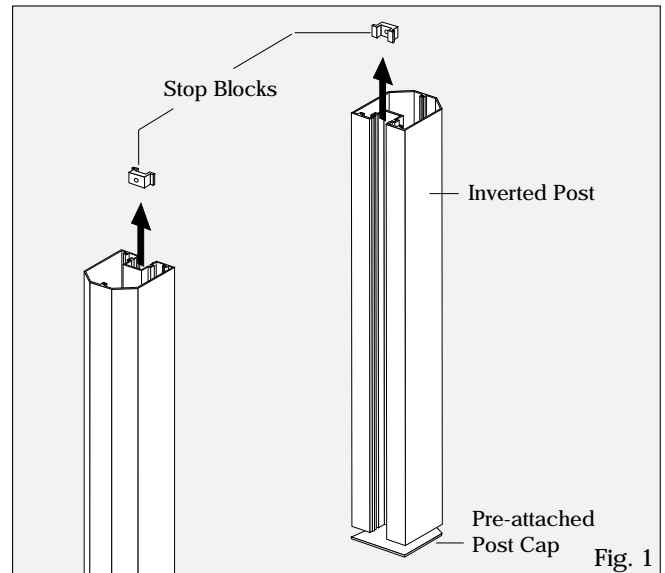

Fig. 1
1. Using the 3/16" hex wrench provided, remove Stop Blocks by loosening the set screw and sliding out the bottom of each post. Lay posts horizontally or stand posts upside down on a protected surface. (Fig. 1)